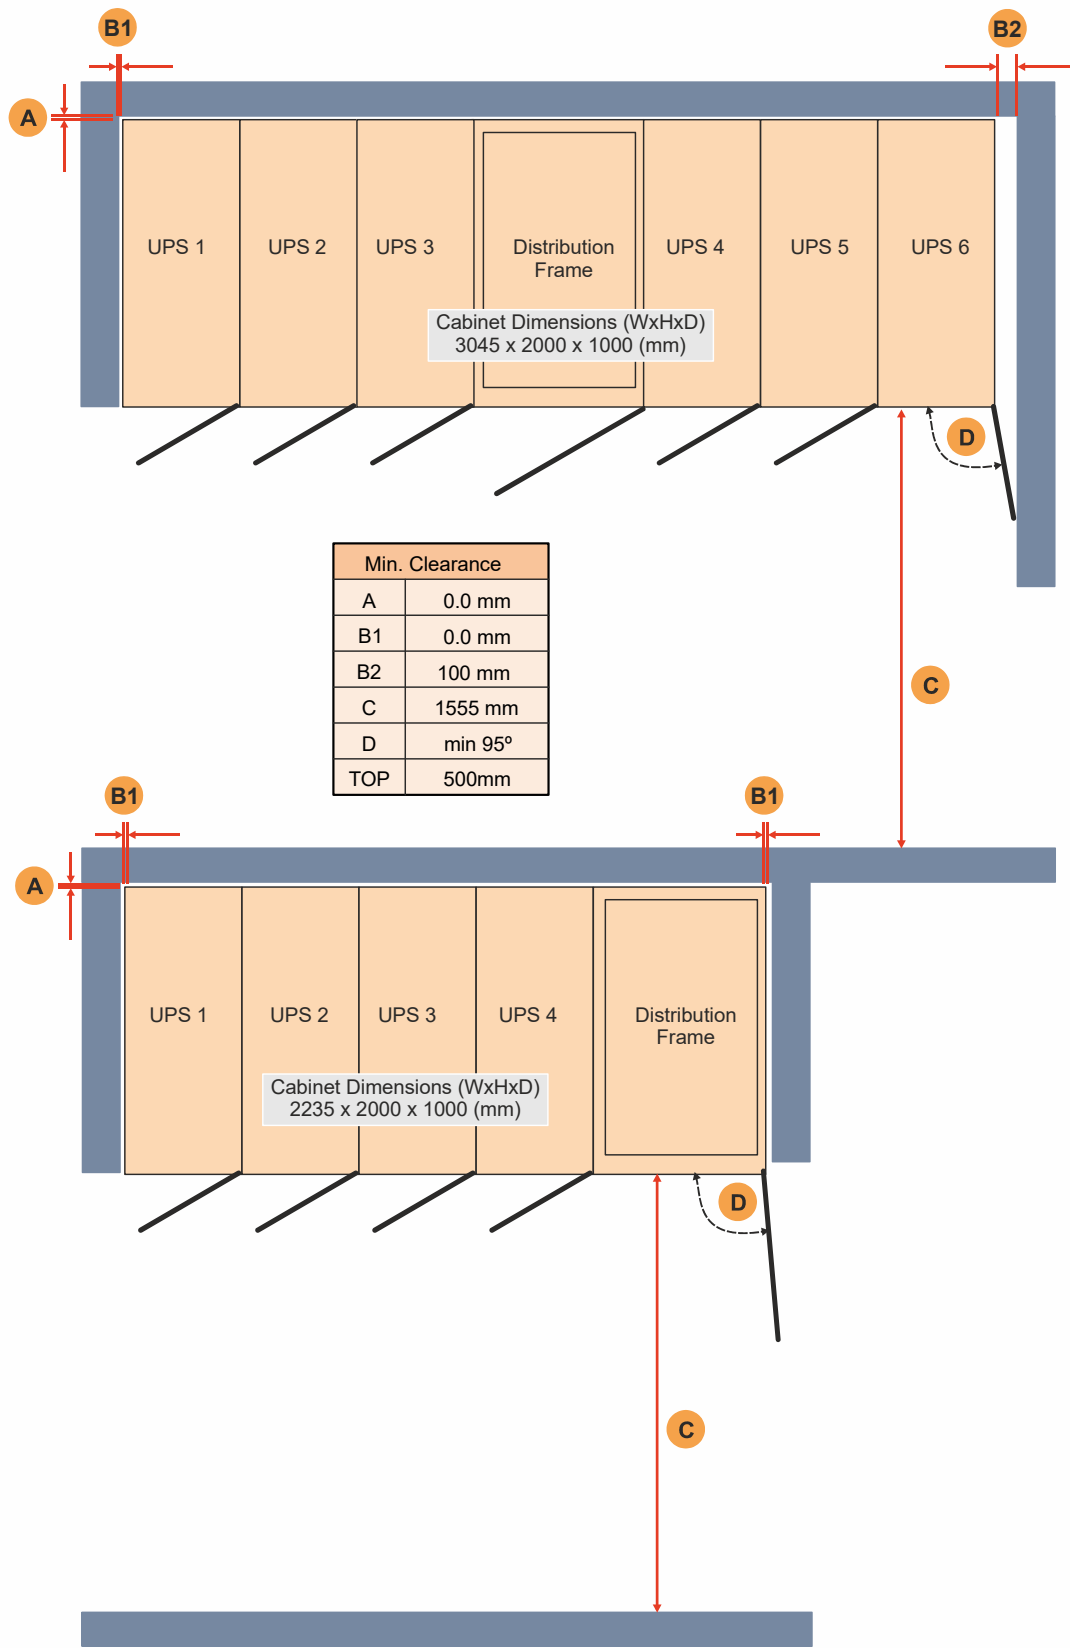

Figure 4.1 Clearances for a PowerWAVE MF1500 DPA stand-alone cabinet
Figure 4.1 illustrates the required MF1500 DPA UPS cabinet installation clearances. This drawing shows that no back (A) or side (B1) clearance is required; however the cabinet doors must be opened to at least 95° in order to access/remove some components, so if the wall at the right of the UPS cabinet protrudes beyond the cabinet front then a minimum clearance of 100 mm (B2) must be provided to allow the door to be fully opened. A front clearance of 1555 mm (C) is required to enable the inverter modules to be removed or replaced by an individual service engineer. Ideally, the space provided in front of the cabinet should be increased beyond the specified 1555 mm where possible to enable unrestricted passage in front of the cabinet when the cabinet doors are open.